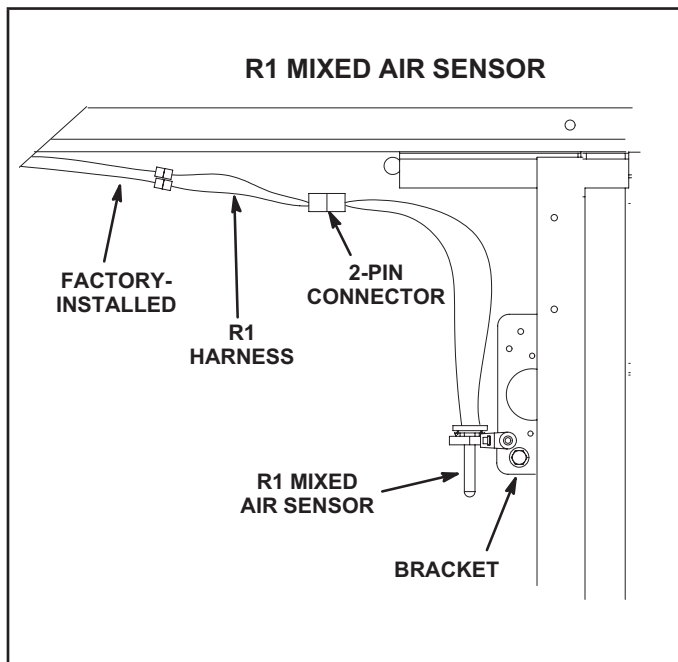

FIGURE 37
- 1 - Locate two wires labeled R1 in wire bundle in top of blower section. Connect spade terminals on R1 harness to the wires from the bundle. Connect the R1 harness 2-pin connector to the R1 2-pin connector. See figure 37. Make sure to secure wires away from moving parts.